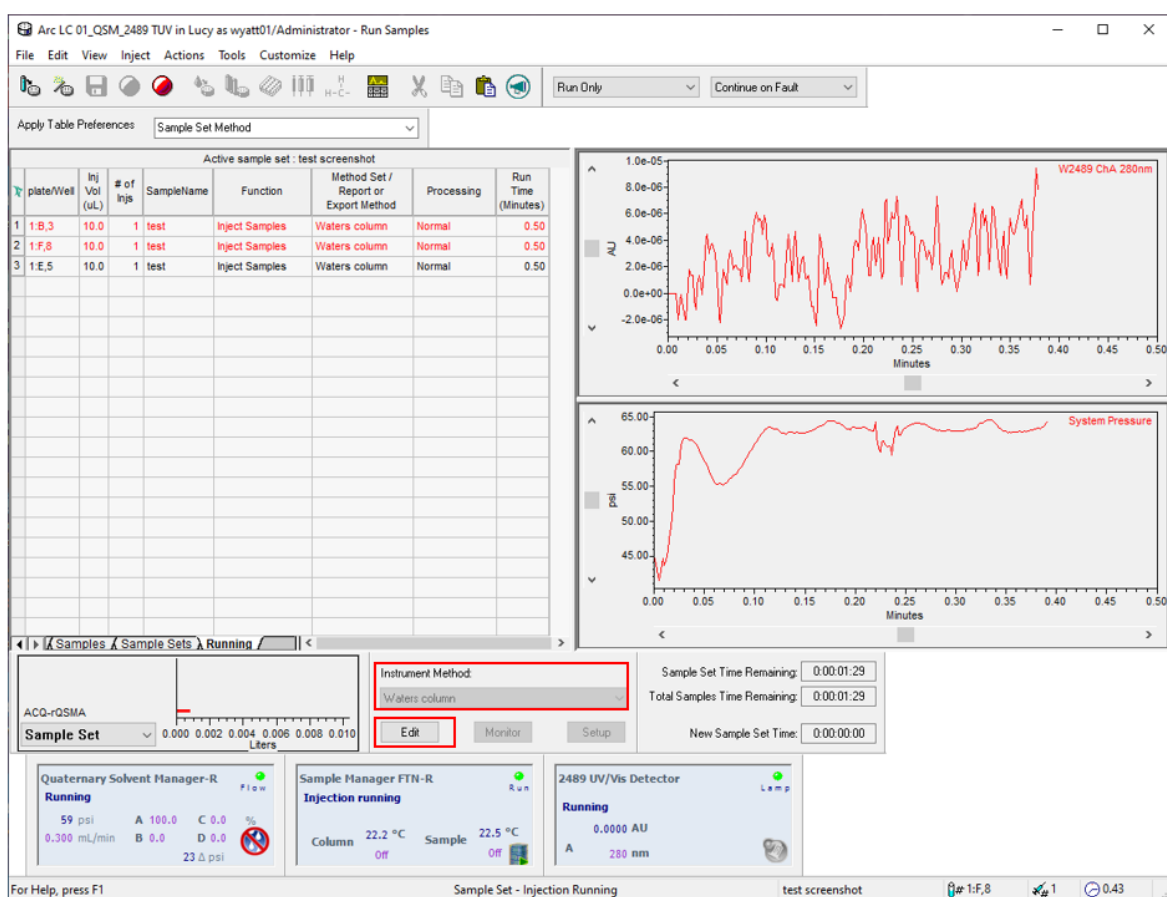

Figure 14. Screenshot of the Empower 3 software main screen.
2. In the main workspace, select the method you wish to run and click **Edit** (see Figure 14).